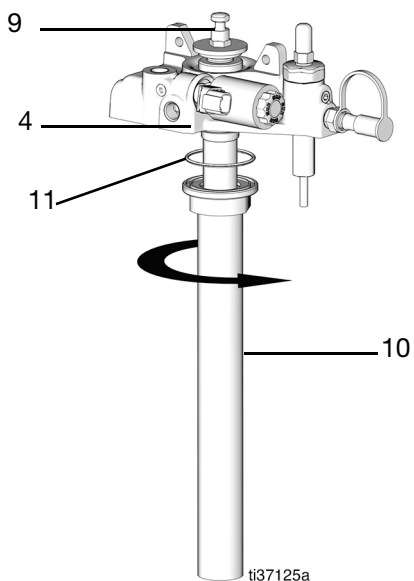
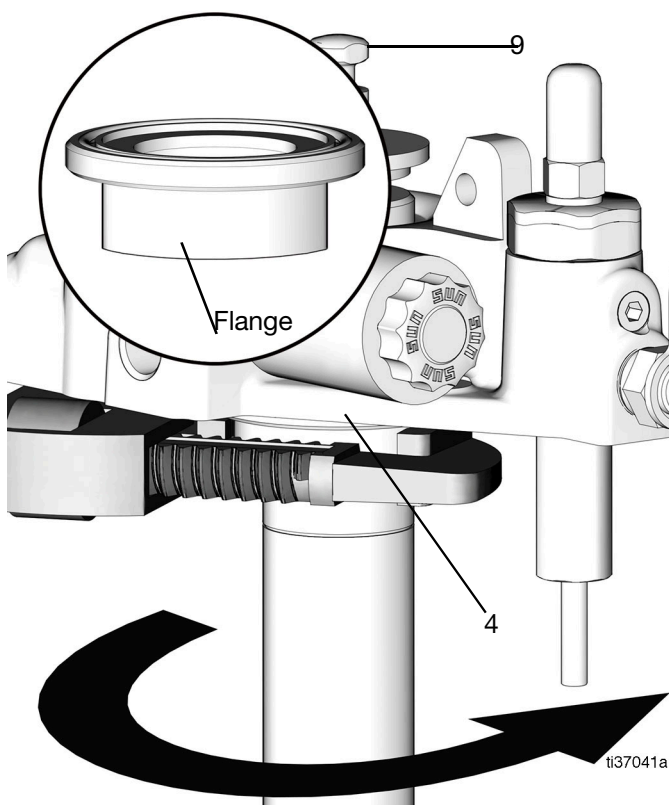

FIG. 65
FIG. 66
25. Replace the o-ring (11) and grease lightly (FIG. 65).
26. Slide the tube-in-tube (10) over the assembly and up to the pump housing. Tighten the flange (torque 40 ft-lb/54.2 N•m) (FIG. 65 and FIG. 66).